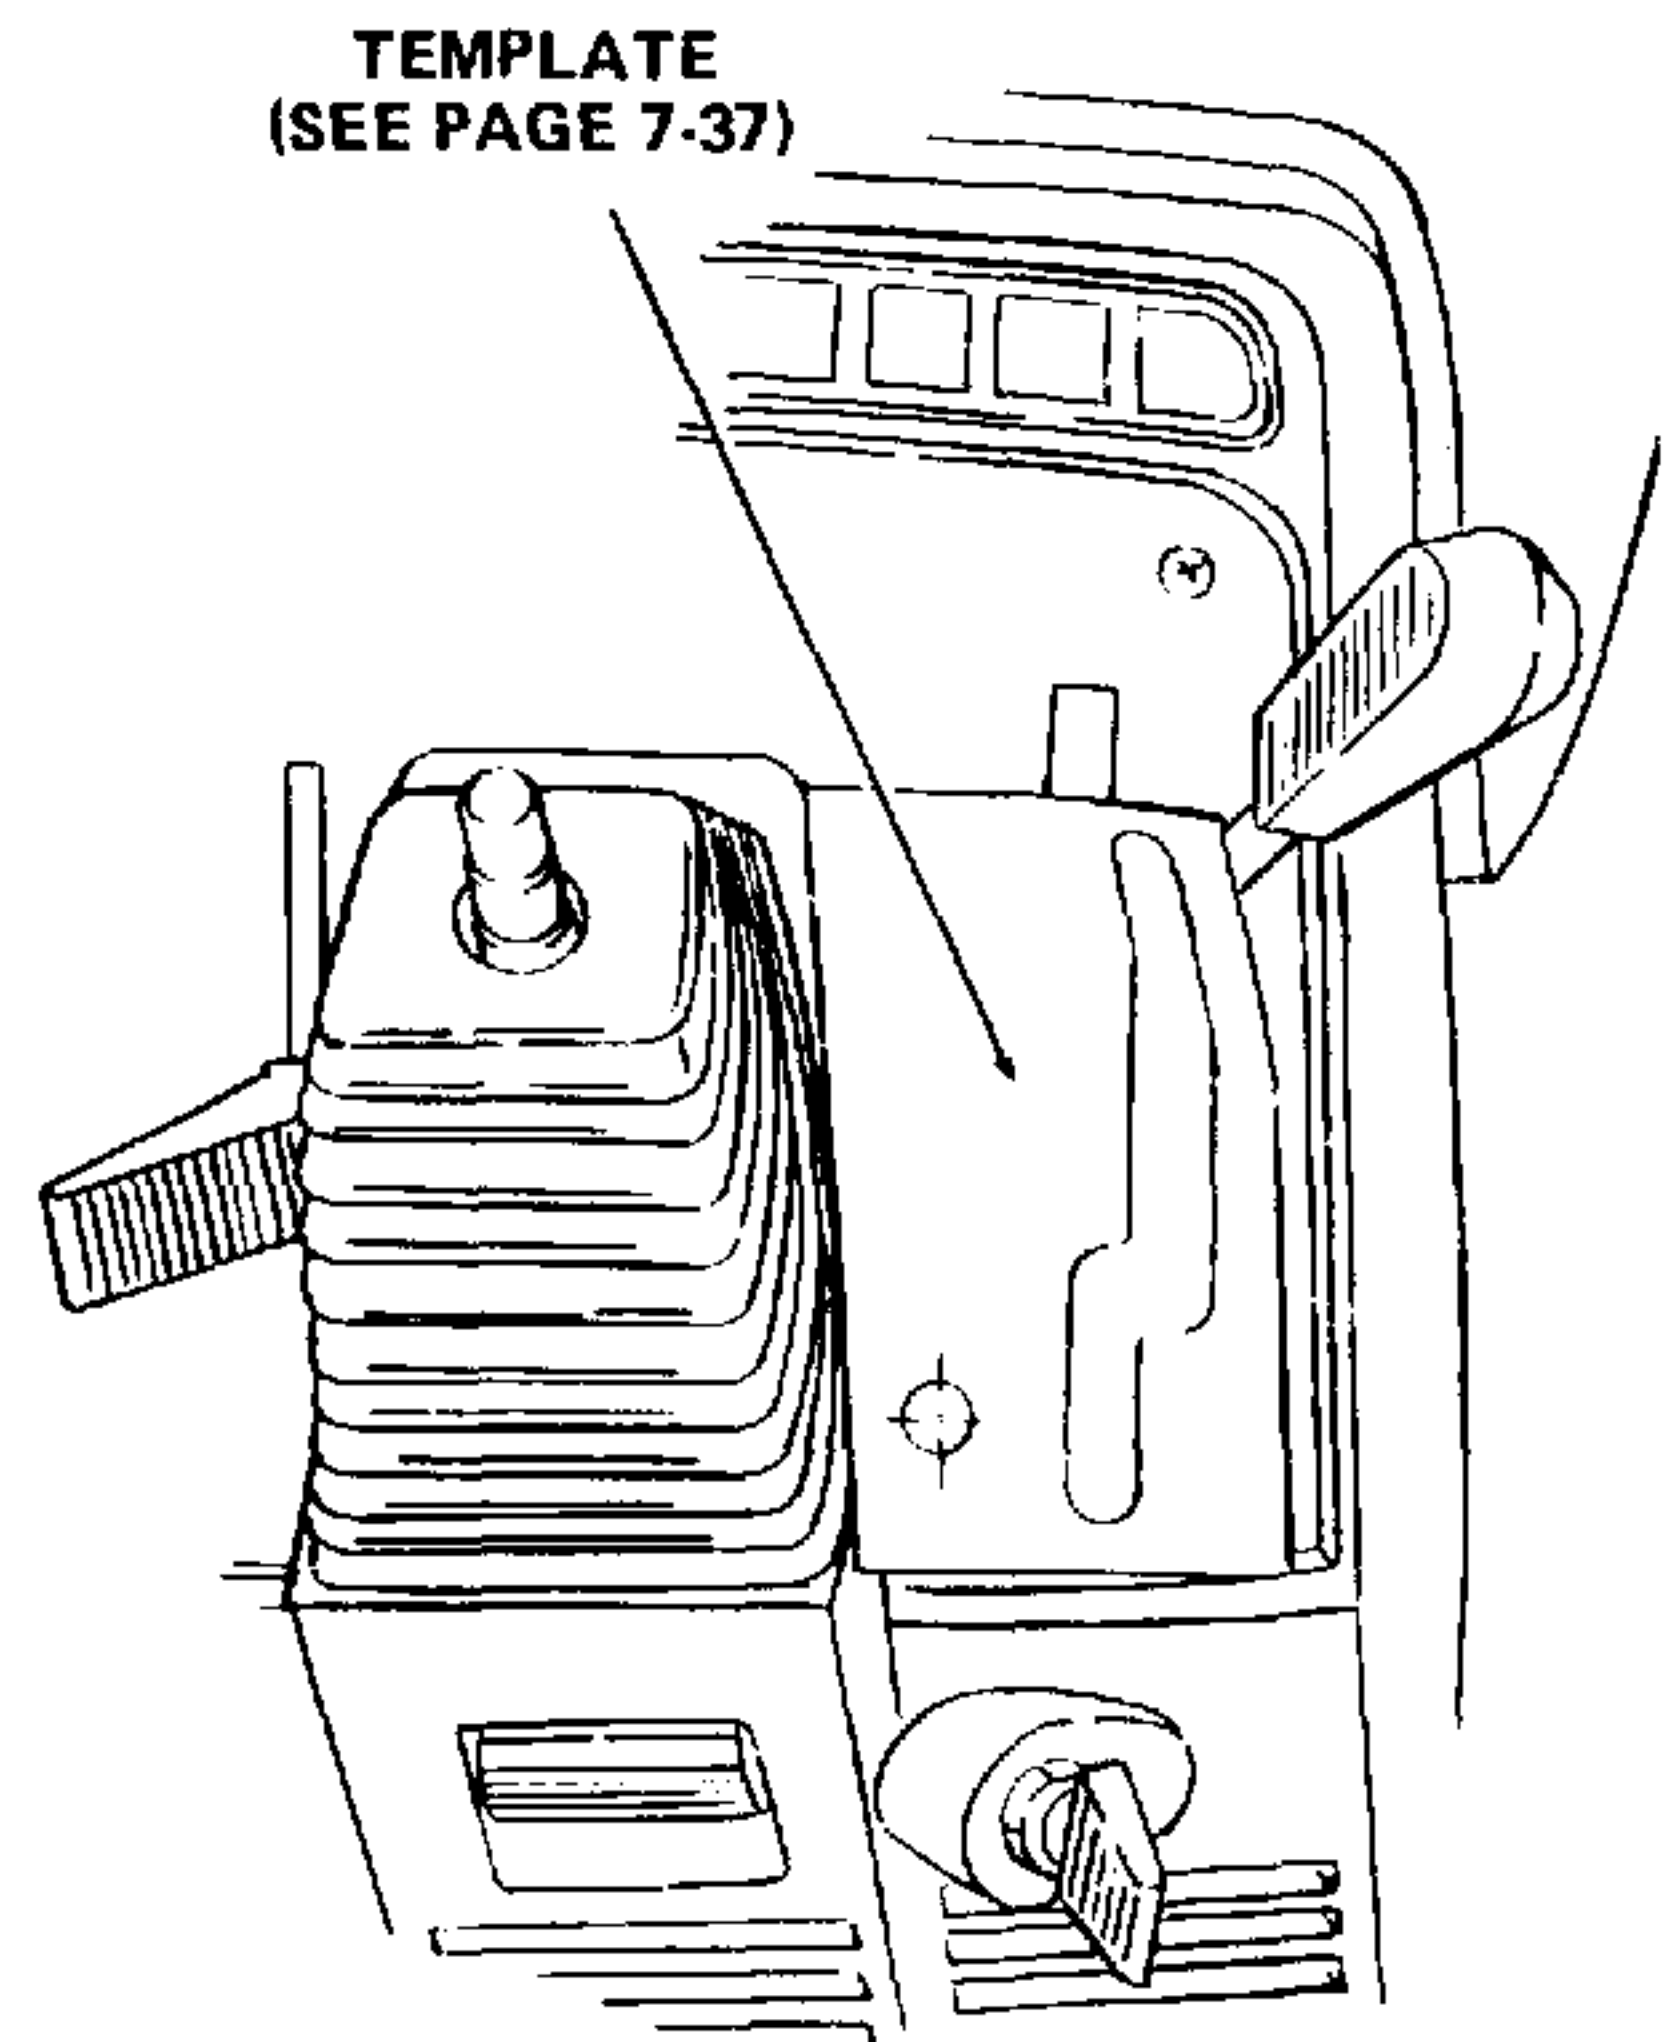

Figure 7-32. Positioning Template on Instrument Panel.
- Position template (located on page 7-37) on instrument panel as shown in Figure 7-32 and tape to secure in place.